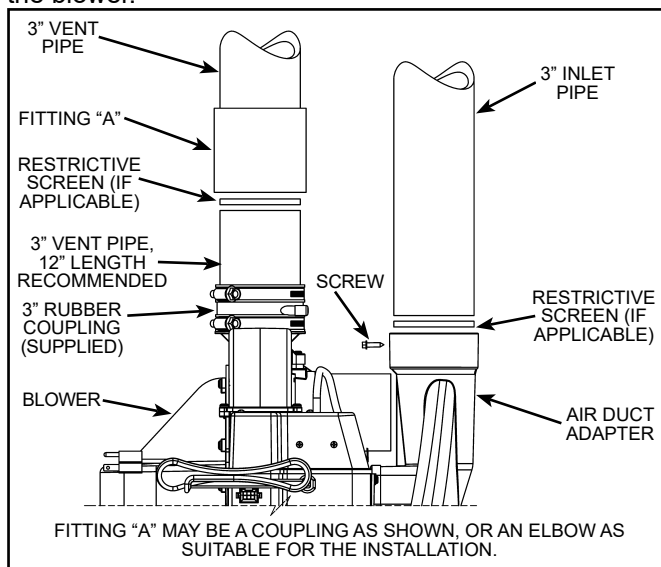

Figure 45.
1. The vent piping connects into the rubber coupling located on the top of the blower assembly. This coupling includes gear clamps to connect the venting to the blower. See Figure 45.
Figure 45 shows heaters having 3" direct connection to the blower.